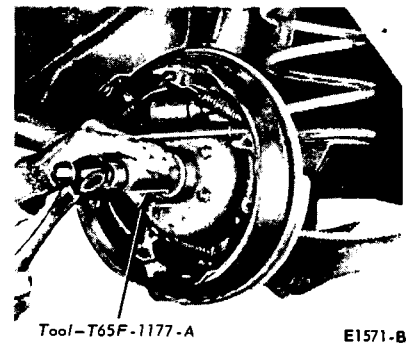

FIG. 9 Rear Axle Shaft Bearing Seal Installation
4. Install the oil seal with the tool shown in Fig. 9. **Installation without the use of the proper tool can distort the seal and cause leakage.**